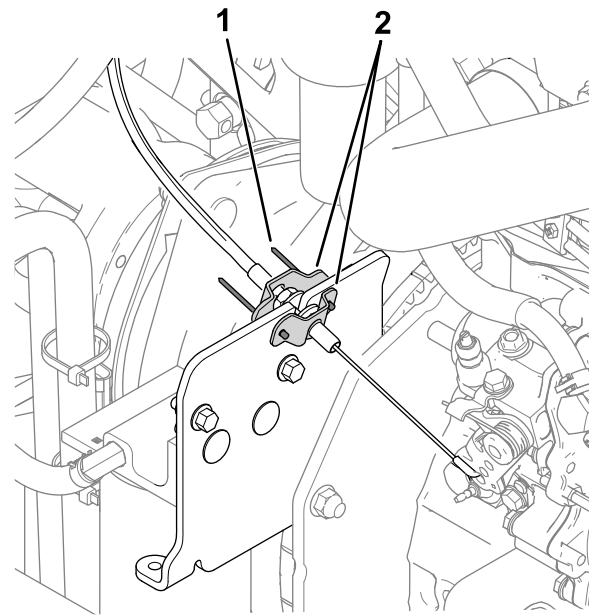

Figure 8
- 8. Use 2 rivets (1/8 inch) to install the cable guards around the throttle-cable jam nuts (Figure 8).